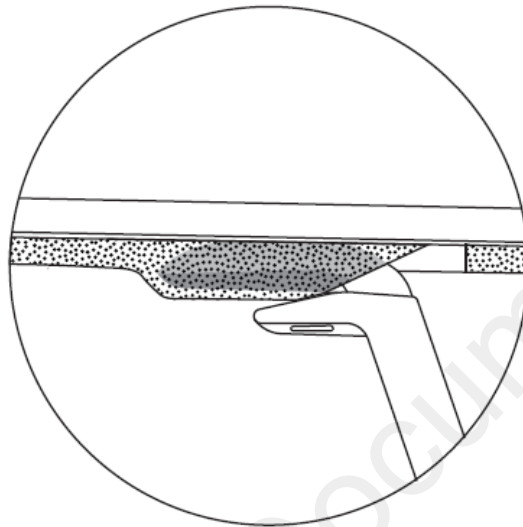

Figure 6: Proper placement of SION
- f. TM will accumulate in the trap and tissue collection window of the device. (Figure 6,7)